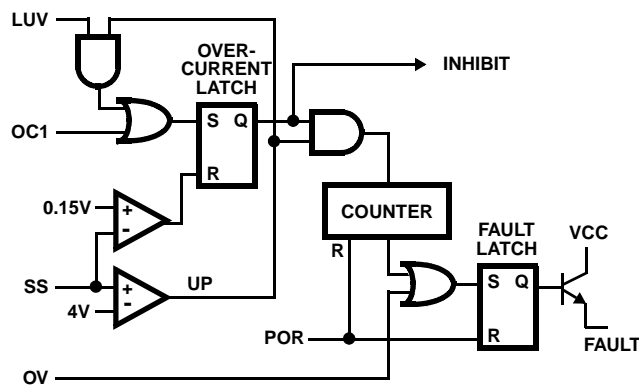

FIGURE 4. FAULT LOGIC - SIMPLIFIED SCHEMATIC
Figure 4 shows a simplified schematic of the fault logic. An over-voltage detected on VSEN1 immediately sets the fault latch. A sequence of three over-current fault signals also sets the fault latch. The over-current latch is set dependent upon the states of the over-current (OC), linear under-voltage (LUV) and the soft-start signals. A window comparator monitors the SS pin and indicates when  $C_{SS}$  is